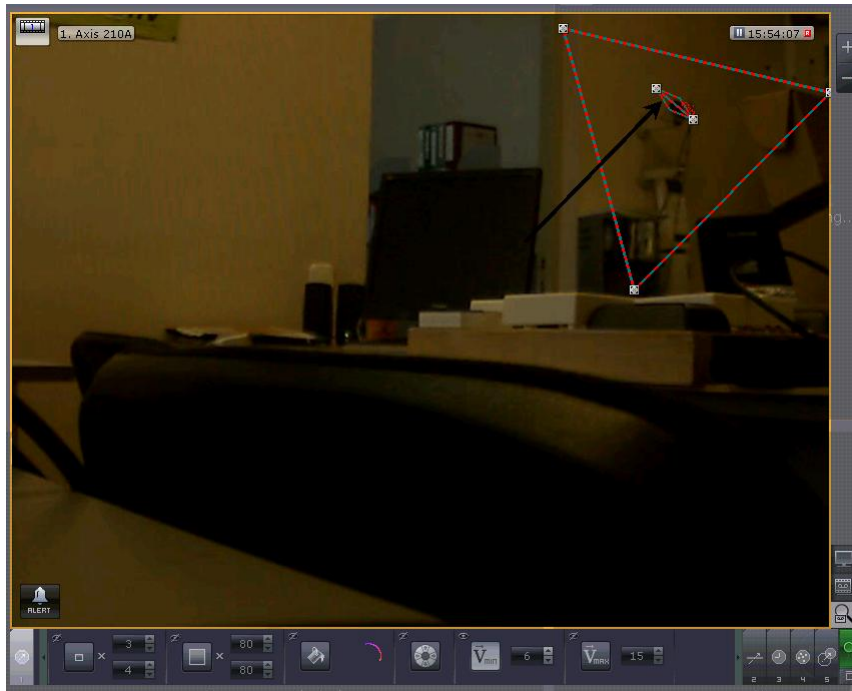

Fig. 7.3—76 The double-headed arrow for setting the object's minimum speed
2. When you do this, a tile (Fig. 7.3—76) opens that will show a double-headed arrow which serves a dual purpose: to visually demonstrate an object's movement within one second, and to specify the given path of motion or speed.